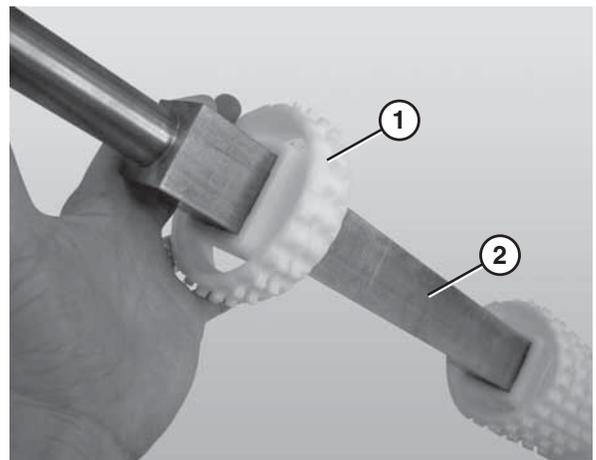

**Figure 82**
1. Slide the nose bar pucks (**Figure 82, item 1**) onto the nose bar drive post (**Figure 82, item 2**).
2. Attach the nose bar wear strip (**Figure 82, item 3**).